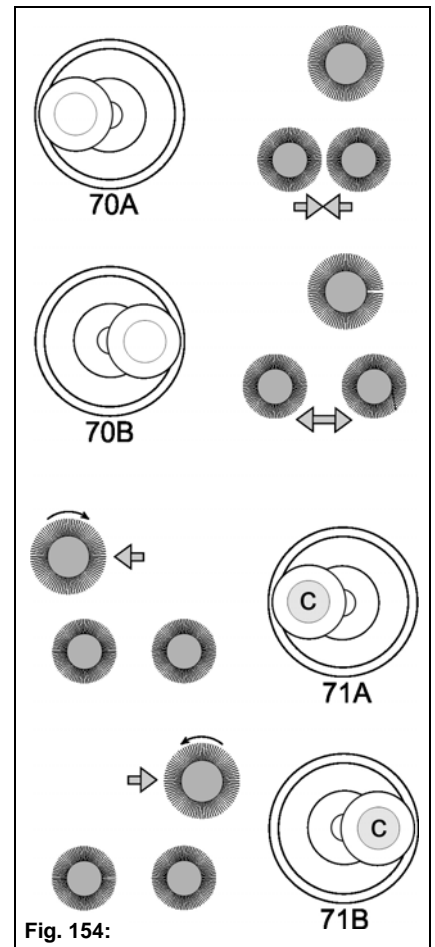

Fig. 154:
Press the button **Fig. 154-C** and simultaneously move the joystick **Fig. 154-75 (A)** to the left.
Press the button **Fig. 154-C** and simultaneously move the joystick **Fig. 154-75 (B)** to the right.